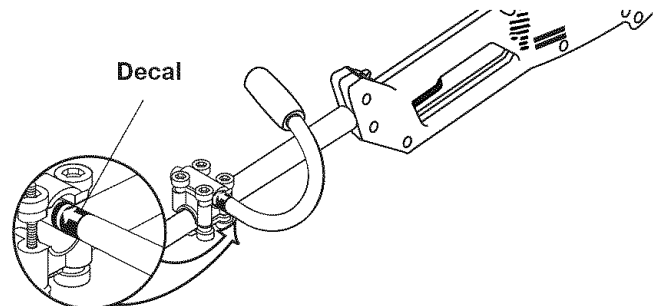

Fig. 2
5. Slide the assist handle in or out until the arrow/white line on the decal touches the clamp assembly (Fig. 2).